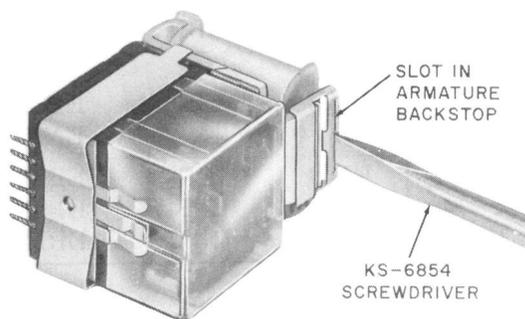

Fig. 9—Method of Adjusting Armature Backstop
- (1) If the requirement is not met, adjust the armature backstop as necessary by expanding the slot in the backstop with the KS-6854 screwdriver (see Fig. 9) or compressing the slot with the KS-6015 pliers.